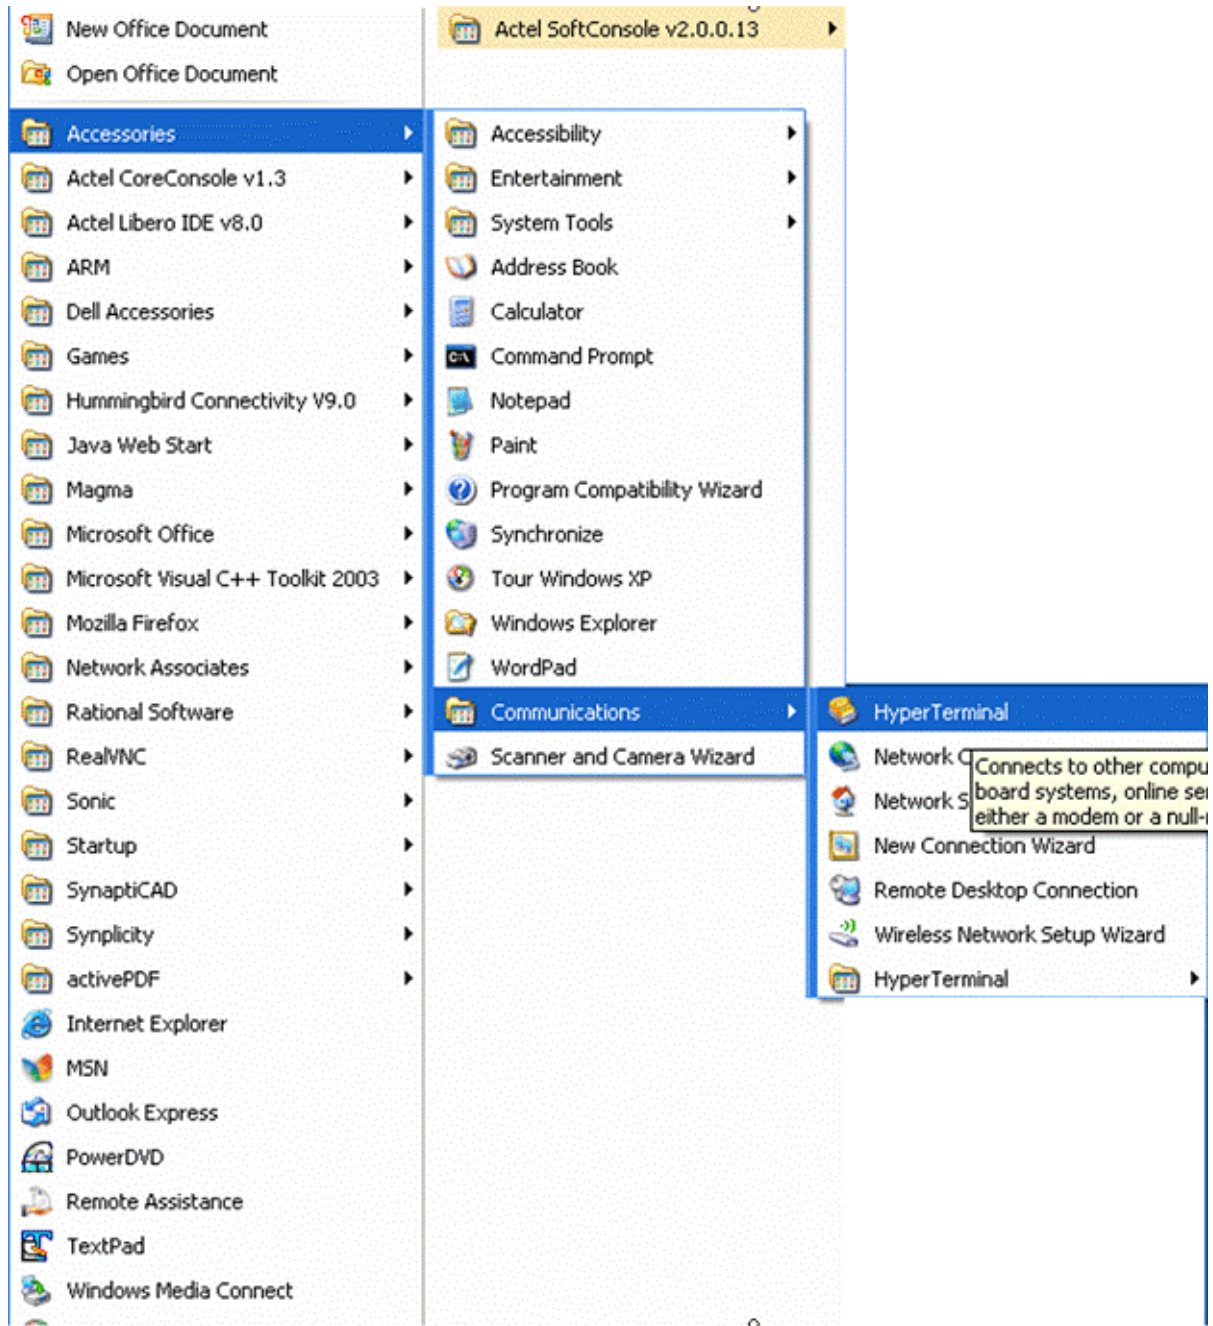

Figure 6-5 • HyperTerminal Program Setup
1. Open the Windows start menu. Select **All > Programs > Accessories > Communications** and select the HyperTerminal program (Figure 6-5). This opens HyperTerminal.